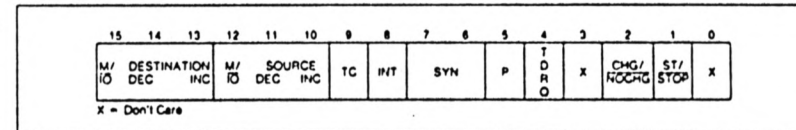

Figure 17. DMA Control Register.
The format of the DMA Control Block is shown in Table 13. The Transfer Count Register (TC) specifies the number of DMA transfers to be performed. Up to 64K byte transfers can be performed with automatic termination. The Control Word defines the channel's operation (see Figure 17). All registers may be modified or altered during any DMA activity. Any changes made to these registers will be reflected immediately in DMA operation.